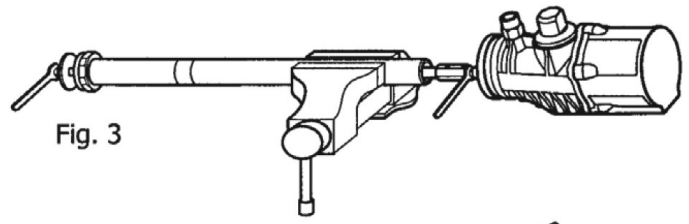

Fig. 3
4. INTRODUCE AN OPEN END WRENCH IN THE MILLING OF THE LOWER PART OF THE AIR PISTON AND UNSCREW THE NUT (41) AND REMOVE THE WASHER (40) (FIG. 3)